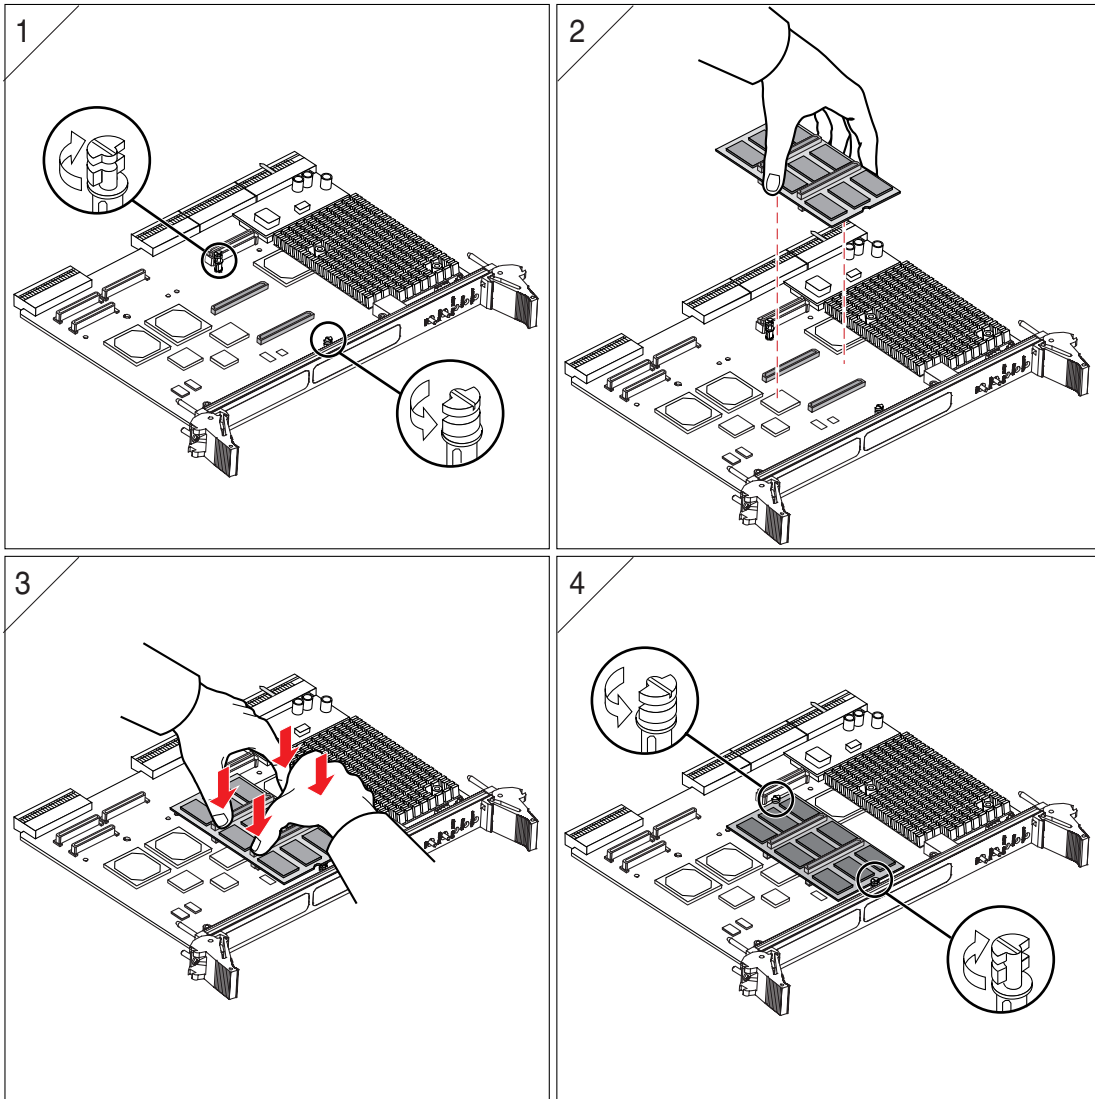

FIGURE 2 Single-wide Memory Module Installation Procedure on a Typical Netra CP2000/CP2100 Board
Refer to FIGURE 2 and the following instructions to install the memory module.
1. **Rotate turrets to the position shown in FIGURE 2 Segment 1. Hold the memory module centered right over the memory connectors.**
2. **Align the module connectors with the memory sockets on the Netra CP2000/CP2100 board (see FIGURE 2 Segment 2). Make sure the module is right side up so that the connectors mate. While holding the connector by the long edge, orient the midway notch on the memory module towards the front panel of the cPCI board.**
3. **Seat the module firmly into position so that it fits onto the board connectors, while pressing down on the module with your fingers (see FIGURE 2 Segment 3).**
4. **Rotate the turrets back to the position shown in FIGURE 2 Segment 4.**